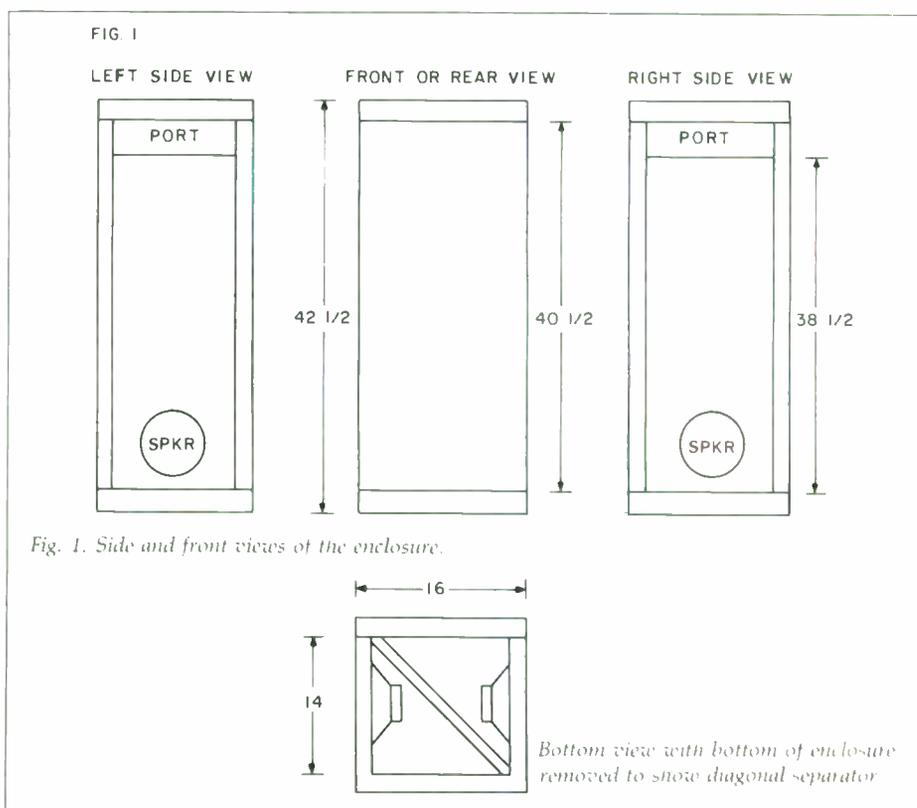

Fig. 1. Side and front views of the enclosure.
Figure 1 shows the outside of the enclosure, which has blank front and rear panels and an 8" speaker mounted at the bottom of each side panel. Above each speaker a port near the enclosure top vents to the atmosphere. The bottom view of the enclosure (with the bottom panel removed) shows a diagonal separator wedged between two
14. Turn the enclosure upside down and look at Fig. 1. Carefully file down the 6 1/2" side edges of the diagonal separator until you can wedge it into the enclosure as shown. Push it down until its bottom edge is level with the bottom edges of the enclosure panels.